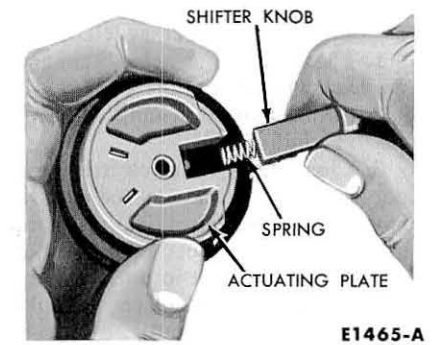

FIG. 18—Installing Shifter Knob
4. Hold the actuating plate and the base plate together with one hand, then install the spring and the shifter knob. (Fig. 18).